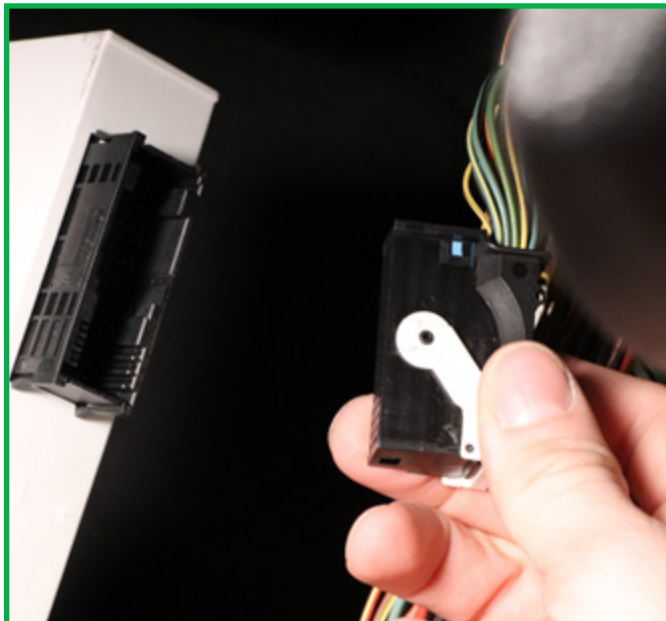

FIGURE 50
2. Unplug air suspension control module. (Figure 50)